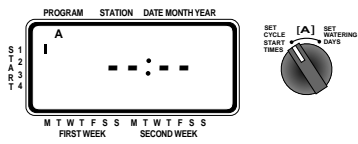

FIGURE 5: LCD Display with Start Time
- Turn the rotary selector to set the **CYCLE START TIMES** position in the program that you want to set up. The display will show an **A** or **B** depending on which program you have selected. The display will show **— : —** and a blinking cursor will appear in **START 1** location [See Figure 5].